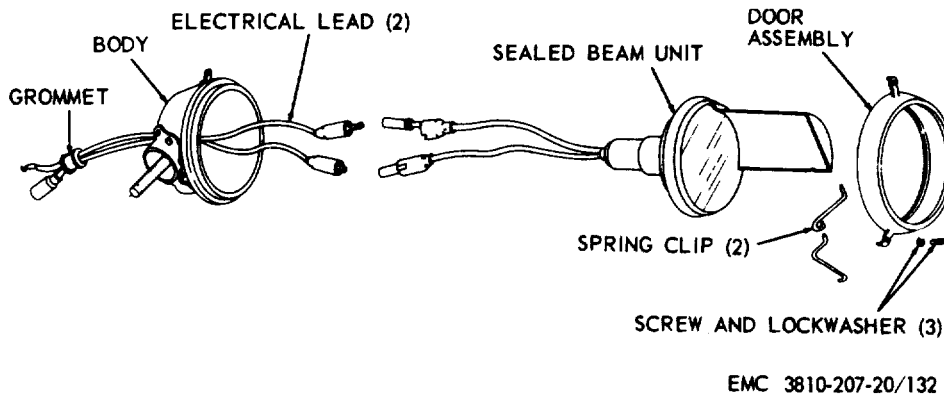

Figure 132. Front blackout headlight, exploded view.
b. Disassembly. Disassemble the front blackout headlight as illustrated on figure 132: .
- (1) Clean all parts with a cloth dampened with an approved cleaning solvent and dry thoroughly.
- (2) Inspect all parts for breaks, damage, and proper operation. Replace damaged parts as necessary.
d. Reassembly. Reassemble the front blackout headlight as illustrated on figure 132.